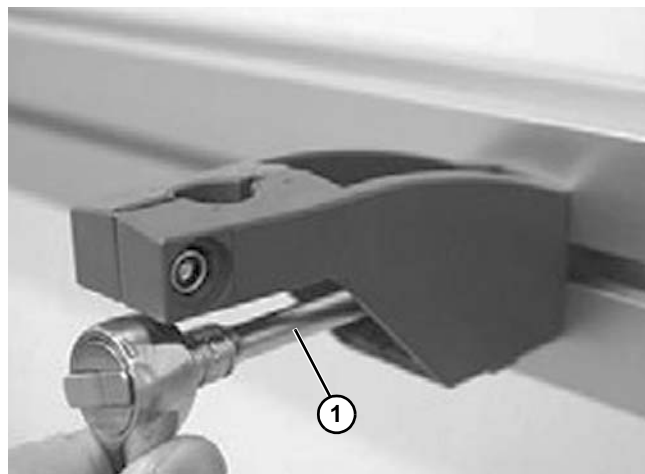

Figure 101
2. Attach the bracket onto conveyor beam and tighten with a socket wrench (**Figure 101, item 1**). Install upper and lower caps.